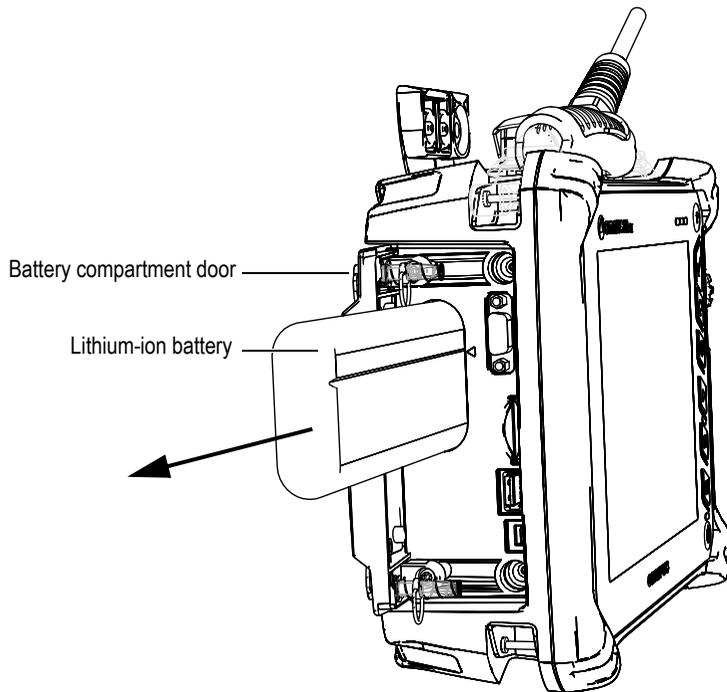

Figure 3-6 Removing a lithium-ion battery
2. Pull the tab to remove the battery (see Figure 3-6 on page 44).